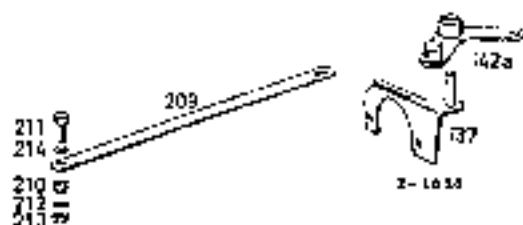

Fig. 07-3/9
3. The bracket for the choke control (137) and the angle lever (142c) for the starter mechanism of the front carburetor differ from those of the rear carburetor and those of the carburetor for Model 190. The starter mechanism of the front carburetor is operated by the angle lever of the rear carburetor via the connecting rod (209) (Fig. 07-3/9).